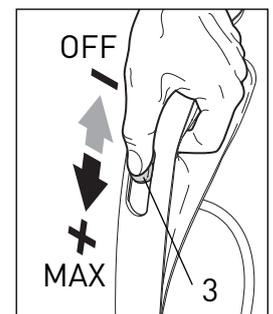

Figure 5
4. Slide the On/OFF switch (3) downward toward the MAX position - see figure 5.
## Operating the Power Head - Figures 5, 6, 7, 8 & 11
**C.** You may adjust the suction control with the suction control slider (3, figure 5) as you vacuum different surfaces or when using the accessory tools. For optimal cleaning and brushing, operate the machine at the maximum suction power setting and push the power head slowly over the carpet.
To change a *floor tool* or *power head*, switch off the power and unplug the vacuum. Press the tool release button (14) and pull the vacuum out of the swivel neck (20). Insert the vacuum into the new tool and push down gently until it snaps into place. Plug the vacuum in and switch the power on. You may adjust the suction control with the suction control slider (3, figure 5) as you vacuum while using the power head or when using the accessory or floor tools.